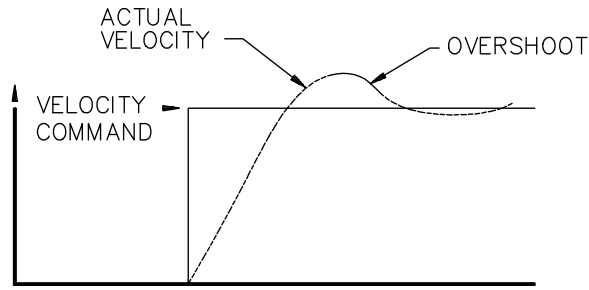
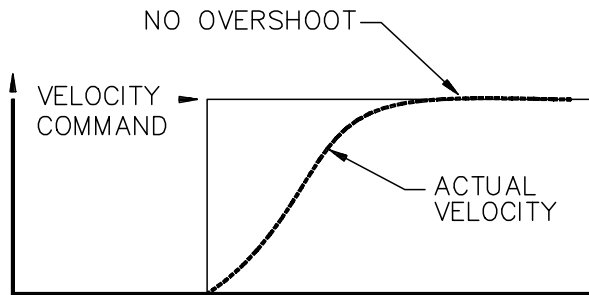

Fig 4.4 Speed Loop Response, proportional gain only, slight overshoot
Fig 4.5 Speed Loop Response, proportional gain only, no overshoot
- The Servo-drive should be enabled. Increase the gain until the shaft is turning. While monitoring the speed response on an oscilloscope, increase the gain until a slight overshoot occurs in the speed response (Fig 4.4 below). Decrease the gain until the overshoot just disappears (Fig 4.5 below) .